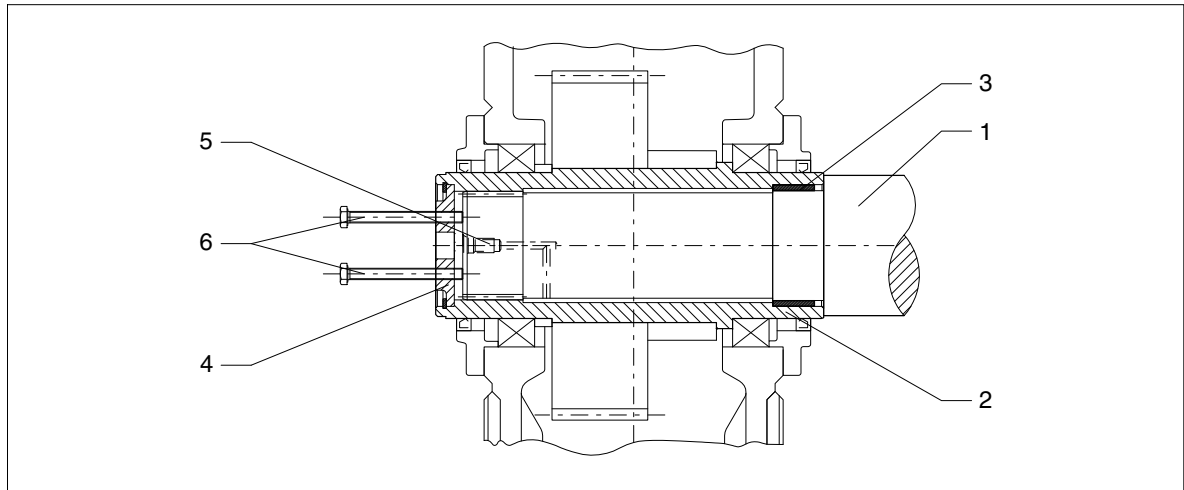

Fig. 51: Hollow shaft with internal spline, demounting with end plate
- using forcing screws in an end plate (see figure 51) or